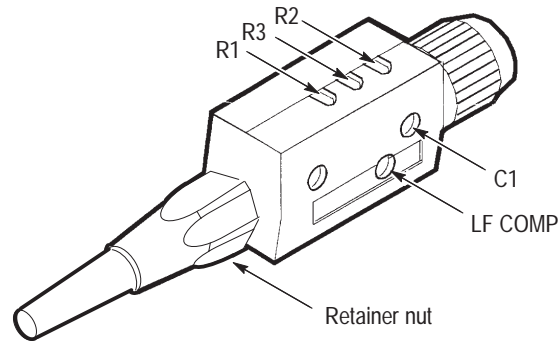
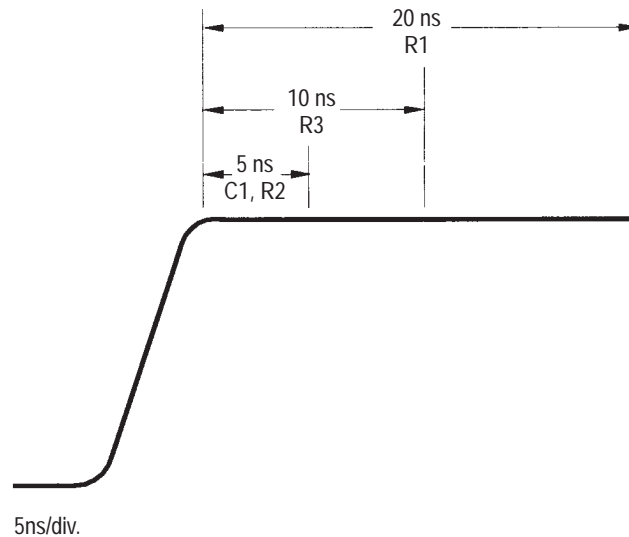

Figure 9: Compensation adjustment locations
Figure 10: Effects of high-frequency adjustments on waveform
5. Use the low-reactance nonconductive adjustment tool to adjust the probe LF COMP (low-frequency compensation) for the squarest waveform front corner edge. See Figure 9 for the adjustment location.
Refer to Figure 9 for the location of adjustments to follow and Figure 10 to identify the waveform areas affected by each adjustment.